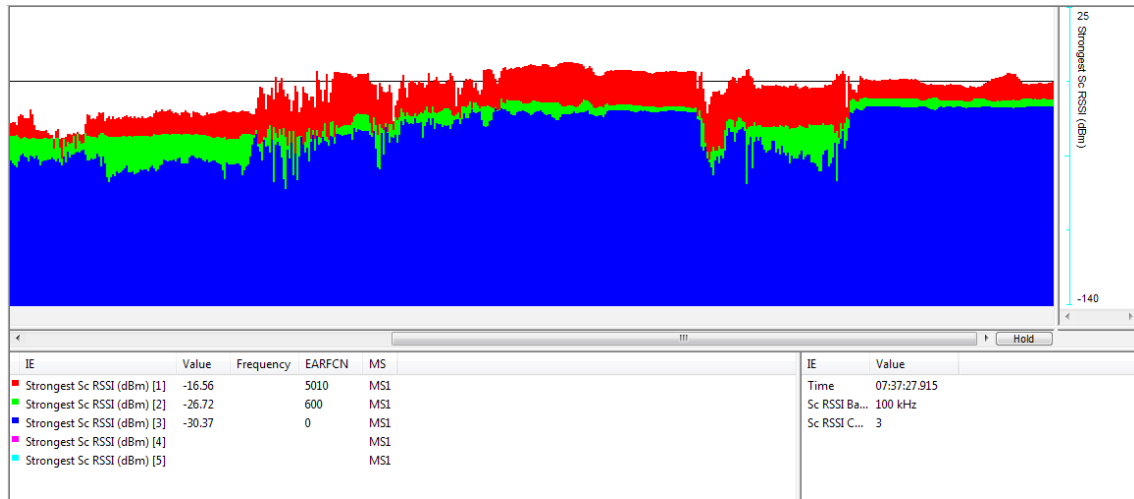

Figure 33. RSSI measurement
- If the measured signal strength (RSSI) is off by more than 5 dB from the calculated link budget or the antenna plumbing does not match the design, notify the on-site construction contractor to check for faulty, loose, or incorrect cable connections or a defective remote amplifier, see Figure 33.